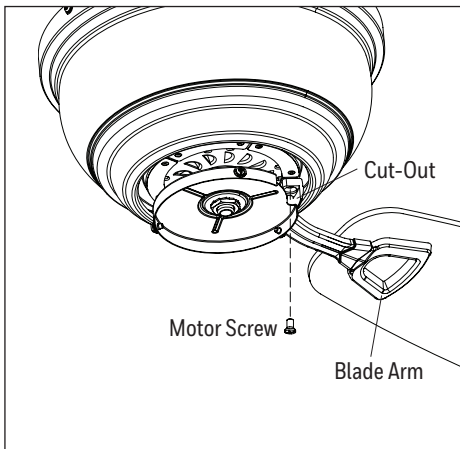

Figure 2.10
10. Install the blade arm to the underside of the motor with the previously removed motor screws (Figure 2.10). Repeat for each blade arm. **Note:** A cut-out in the fitter plate allows easy access to the motor screw holes.